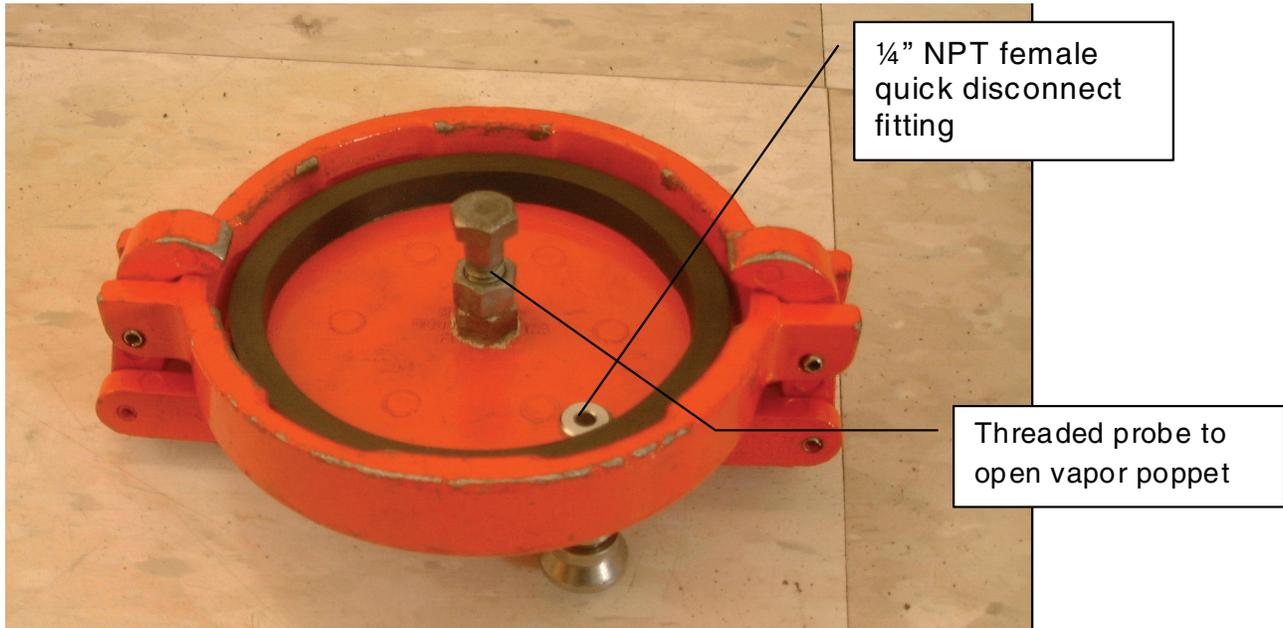
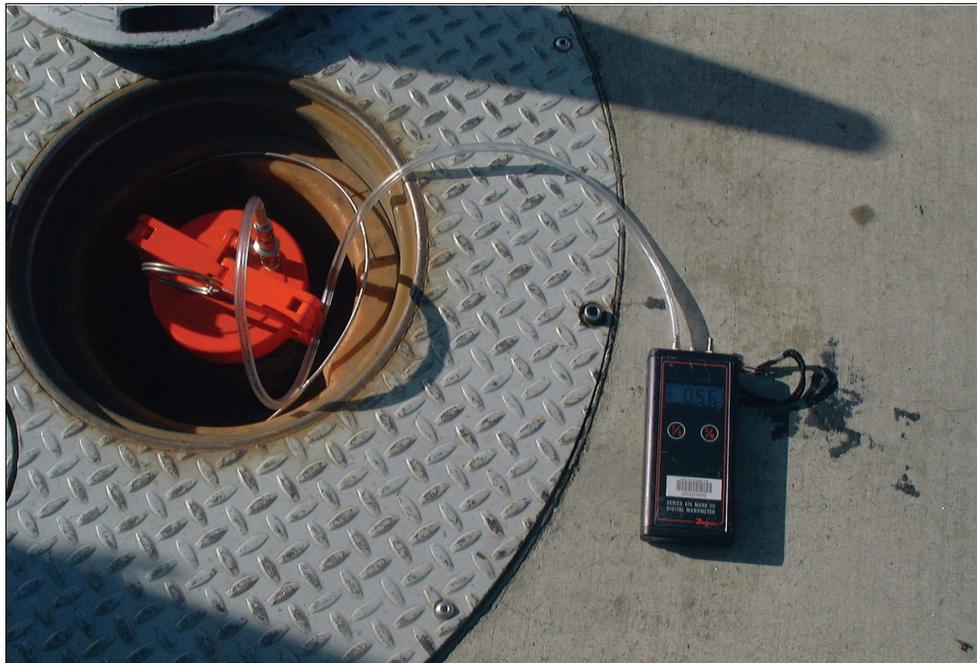

Figure 22. Typical modified vapor adaptor dust cap (bottom view)
Figure 23. Typical field installation of UST Pressure Measurement Assembly
The pressure of the USTs is determined at the Phase I vapor recovery adaptor (dry break assembly) with a vapor coupler test assembly as shown in Figures 2 and 3 of TP-201.3 (Determination of 2 Inch WC Static Pressure Performance of Vapor Recovery Systems of Dispensing Facilities) or a modified dust cap test assembly as shown in Figure 22 and Figure 23. The test assembly is equipped with a center probe, which opens the dry break, and a quick connect fitting that is connected to an electronic pressure measuring device or digital manometer. The test assembly should open the dry break with minimal venting of the USTs. This test can be performed while product is being dispensed into motor vehicles.
- a. Install a probe in the center of the dust cap as shown in Figure 22 (one method is to tap and thread probe). The probe shall be of sufficient length to open approximately  $\frac{1}{2}$  inch of the dry break while allowing the cap to maintain a leak tight seal on the adaptor.
- b. Install female quick connect fitting on the top of the dust cap, offset from the center probe as shown in Figure 22. A Swagelok, part number SS-QC4-B-4-PM, quick connect fitting or equivalent can be used.
- c. Use "Tygon tubing" or equivalent to connect the manometer to the dust cap (Figure 23). Install a male quick connect fitting (Swagelok part number SS QC4-5-400 or equivalent can be used) on one end of a ferrule stainless steel tube (or equivalent material). Connect one end of the "Tygon tubing" to the stainless steel tube and connect the other end to the digital manometer (Figure 23).
1. Attach the dust cap or vapor coupler test assembly to the vapor adaptor (Figure 23).